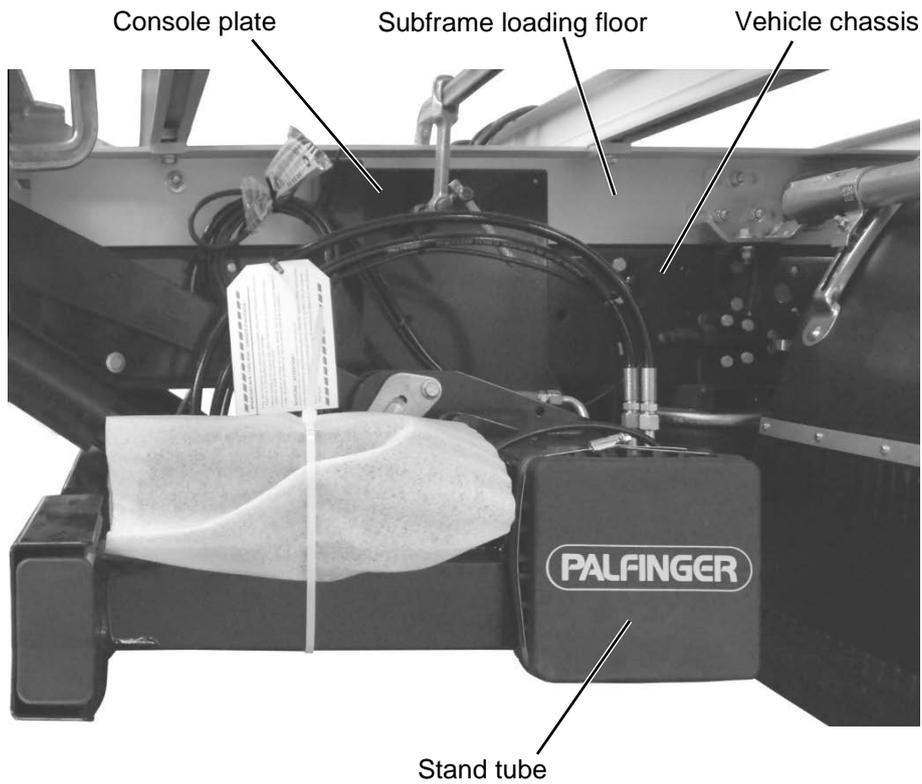

Figure 20: Positioning the stand tube
- ▶ Secure the stand tube / linkage mounts to the vehicle frame in this position with screw clamps (see Figure 20, page 40).